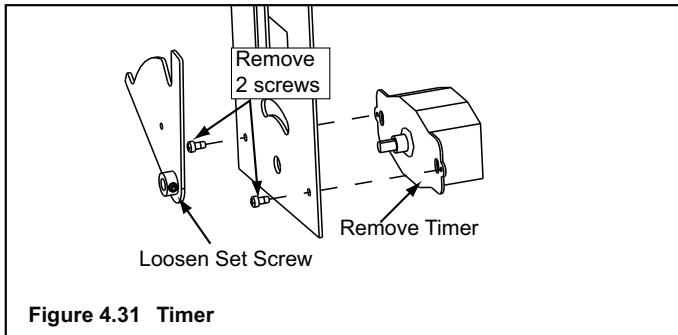

Figure 4.31 Timer
- Loosen set screw on timer, remove two screws and remove timer. See Figure 4.31.